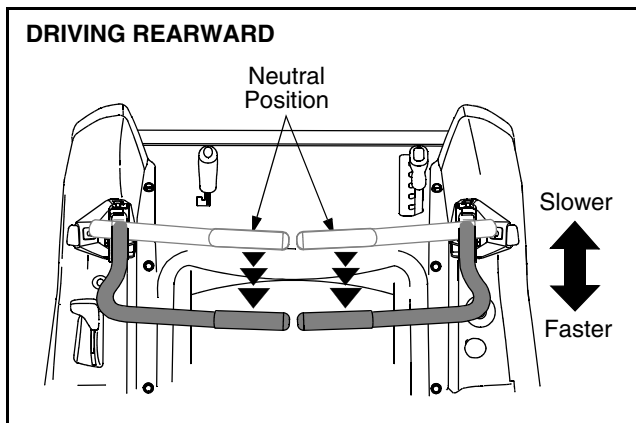

Figure 15
- Slowly and evenly move both drive control levers rearward. The tractor will start to move in the reverse direction. See Figure 15.